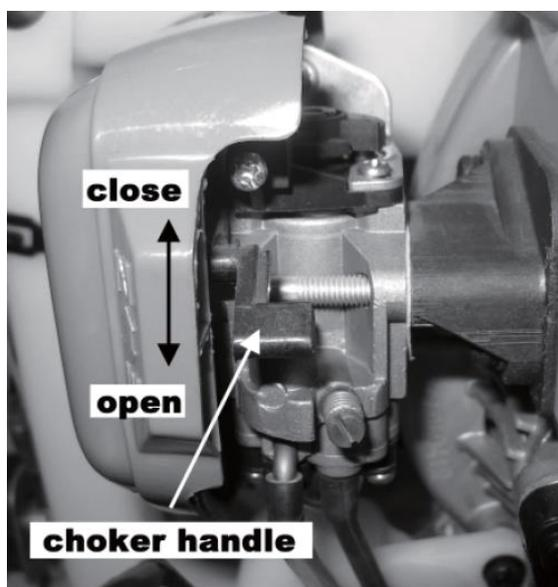

Figure 4
5.2.4 Regulate the choker (see Figure 4) to close position in winter and at the first time to full open position when the engine is hot.